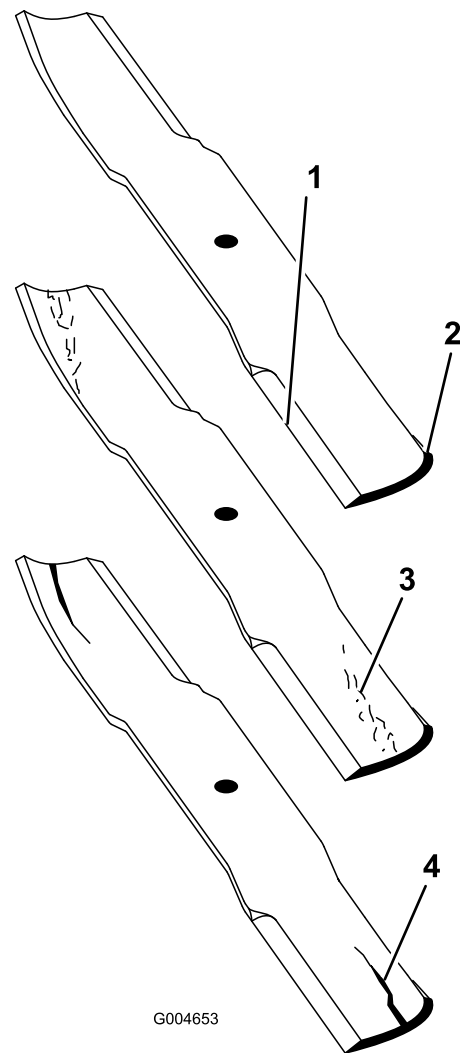

Figure 21
1. Inspect the cutting edges (Figure 21). If the edges are not sharp or have nicks, remove and sharpen the blades. Refer to Sharpening the Blades.
2. Inspect the blades, especially the sail area (Figure 21). If you notice any damage, wear, or a slot forming in this area (Figure 21), immediately install a new blade.